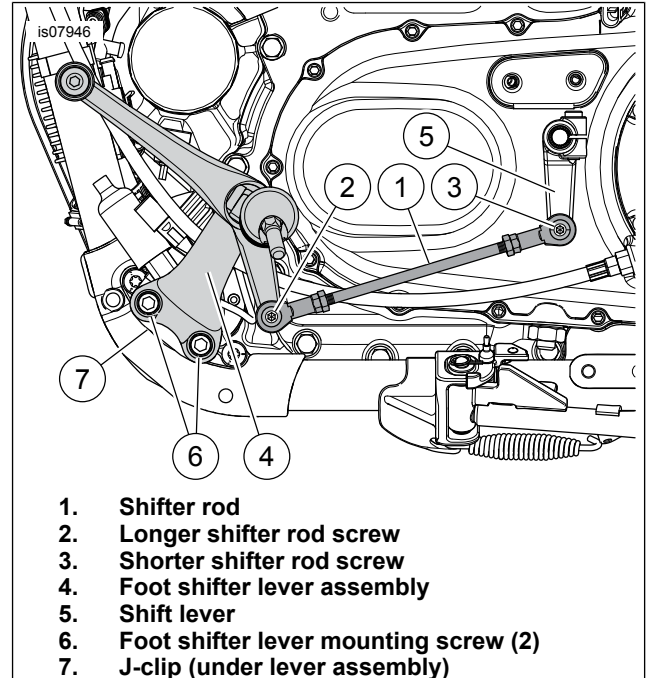

Figure 1. Forward Control Shifter Linkage (XL)
1. See Figure 1. Remove the original equipment (OE) shifter rod screws (2, 3) and shifter rod (1) from the foot shifter lever assembly (4) and shift lever (5). Save the screws. Discard the shifter rod.
2. Remove and discard two screws (6). Remove the foot shifter lever assembly (4) and J-clip (7) from the vehicle frame. Save for installation.